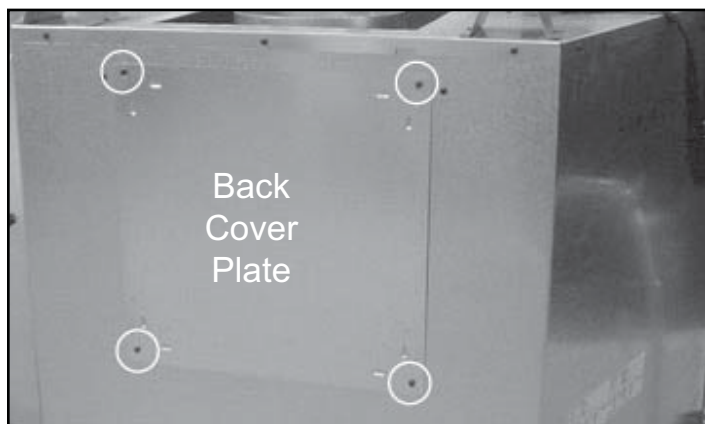
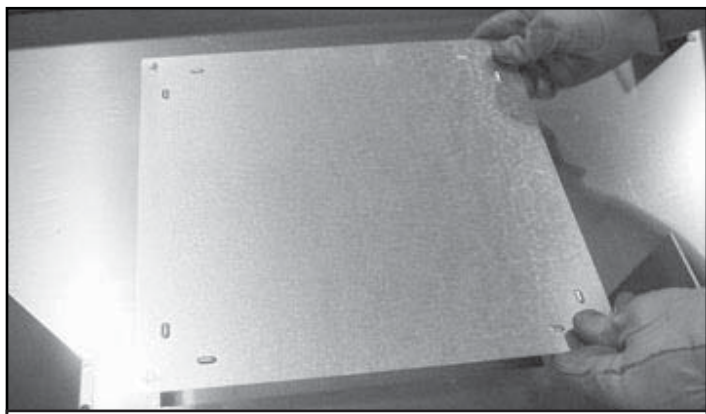
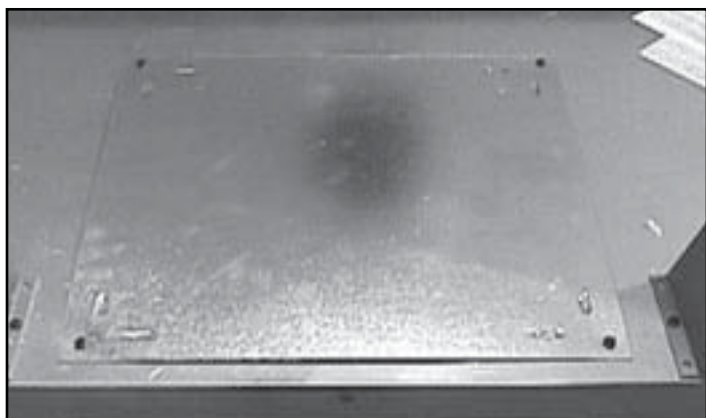

Figure 7.6 Back Cover Plate
Figure 7.15 Plate on Top
Figure 7.16 Plate into place.
- Remove four screws holding the back cover plate. Remove the cover plate. See Figure 7.6.
- Locate the back cover plate removed in Figure 7.6. Place the plate on top of the appliance. See Figure 7.15. Use four screws to hold this plate in place. See Figure 7.16.